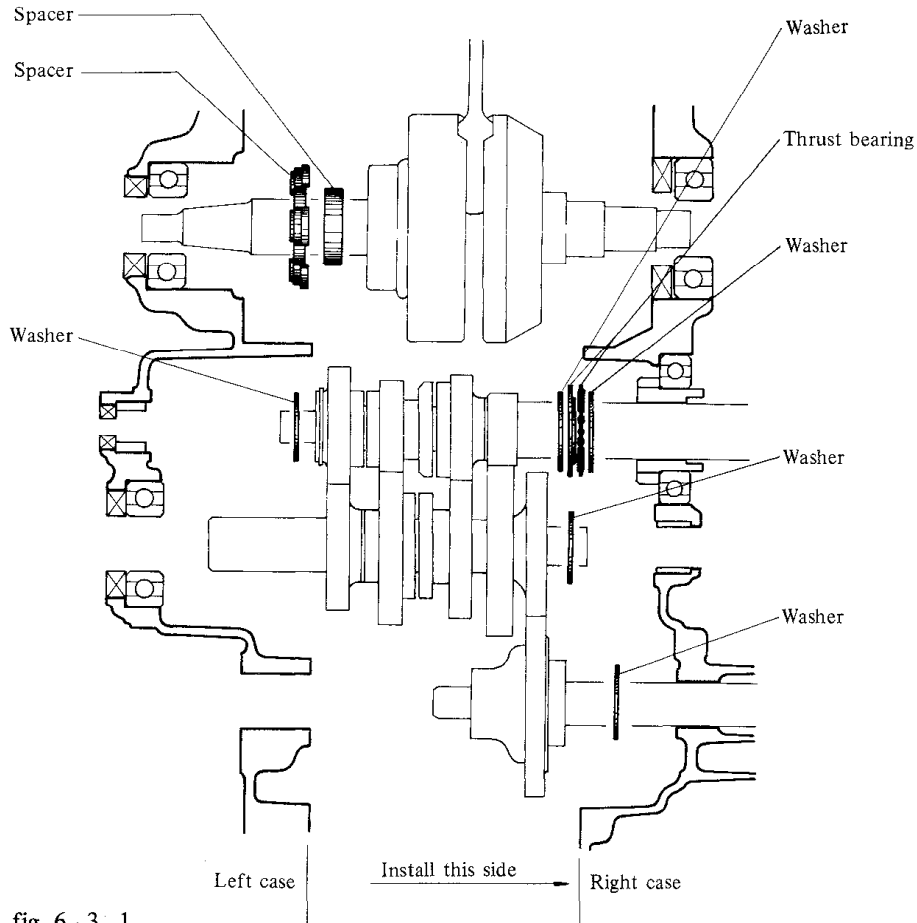

fig. 6-3-1
1. Install the crankshaft and the gear box components in the crankcase right half as shown in fig. 6-3-1.